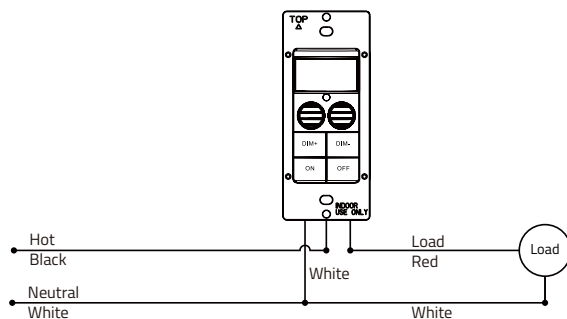

Figure 2
1. Connect the wires as shown in the WIRING DIAGRAM (Figure 2): black to LINE, red to LOAD, white to NEUTRAL.